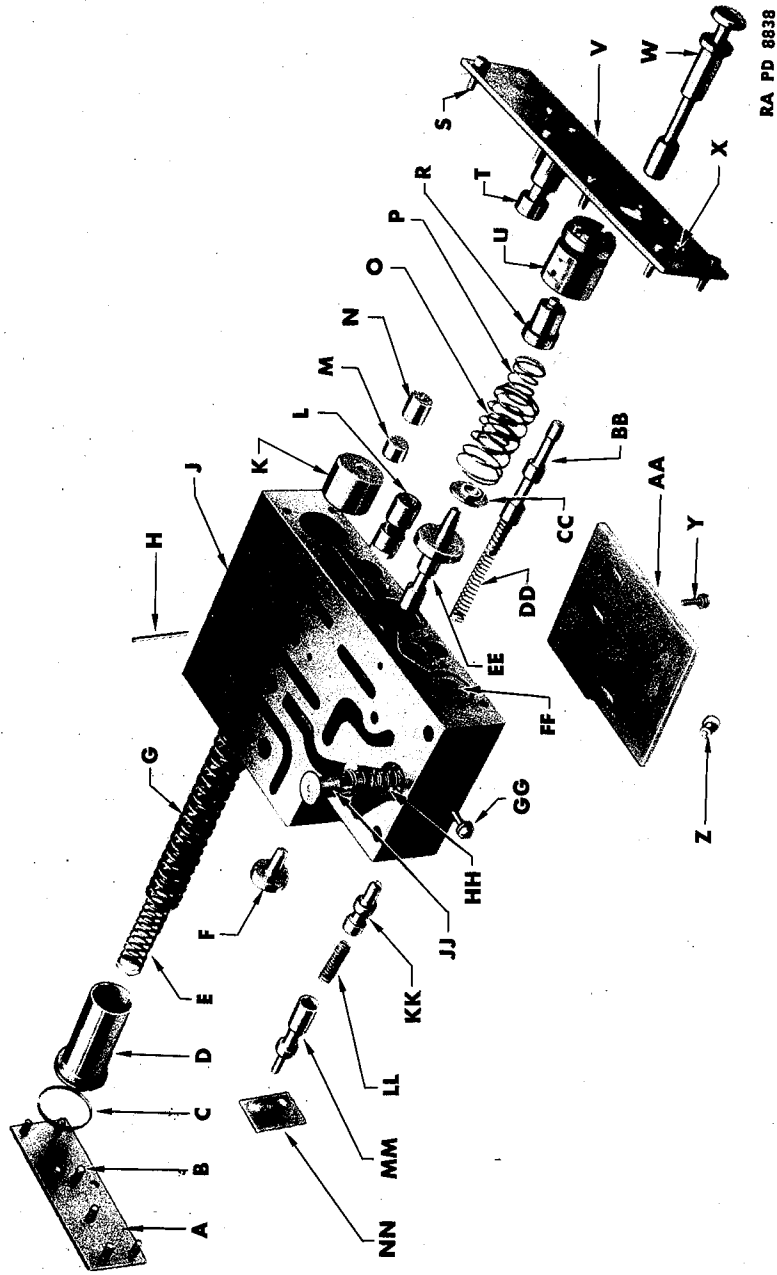
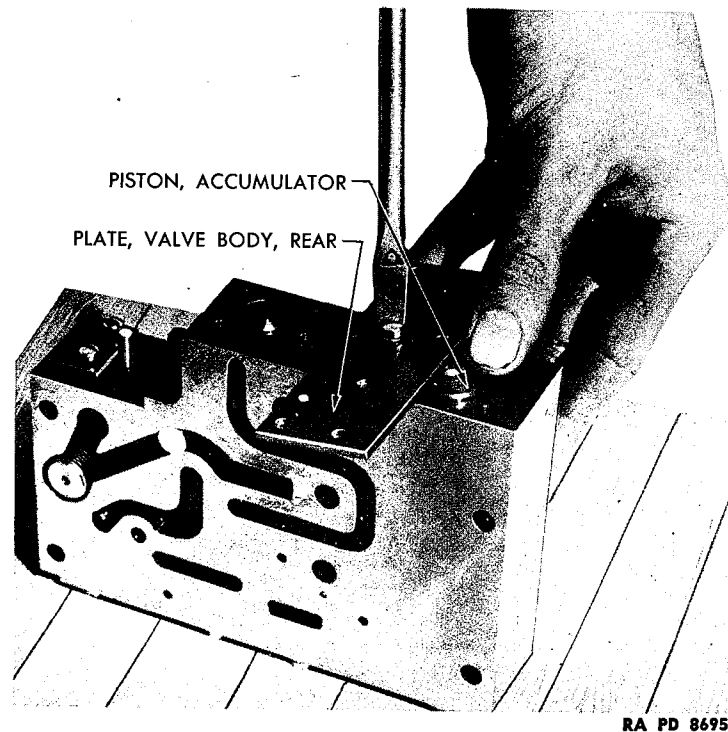

Figure 90 — Control Valve Body — Disassembled
Figure 91 — Removing Accumulator Piston
Remove manual control valve (W, fig. 90) by sliding it out of valve body.
Remove six screws and lock washers holding rear cover plate (A, fig. 90) to valve body. Hold cover firmly while removing screws. **NOTE:** Do not remove center mounting screw. Slide cover to one side until accumulator piston is exposed; hold piston in cylinder with one hand and remove center cover mounting screw cover with other hand (fig. 91). Allow accumulator piston to push out of cylinder, and remove accumulator piston springs (E and G, fig. 90).
Remove governor plug (F, fig. 90), from the valve body by turning body up and allowing plug to drop out.
Remove two screws and lock washers holding throttle valve stop plate to valve body (fig. 91) and remove plate (NN, fig. 90). Remove throttle valve assembly, consisting of T-valve (MM), spring (LL), and throttle valve (KK).
(5) REMOVE LOW SERVO EXHAUST VALVE (fig. 90).
Legend for Figure 90 — Control Valve Body — Disassembled
Remove round-head dowel screw in top cover plate, while holding thumb over regulator plug sleeve (fig. 93). Shifter valve springs (O and P, fig. 90) will force regulator plug sleeve (U) out. Note position of hole in sleeve where dowel screw fits. Remove shifter valve springs from valve body. Turn valve body so that clutch relay valve (L), throttle downshift valve (N), exhaust downshift valve (M), accumulator spring locating plug (K), and shifter valve (EE) with shifter valve spring spacer (CC) can be taken out of valve body. If necessary, tap
Remove seven screws and lock washers holding top cover plate to valve body (fig. 93). Lift accumulator oil valve out of valve body (fig. 94). Do not remove accumulator body pin (H, fig. 90).